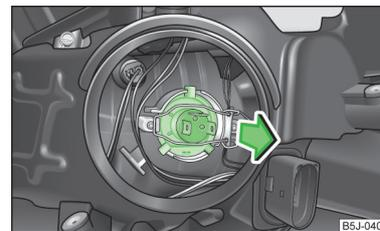

Fig. 155 Removing bulbs for low and main beam
- Remove the connector from the bulb, unlock the securing clip and remove the bulb » Fig. 155.